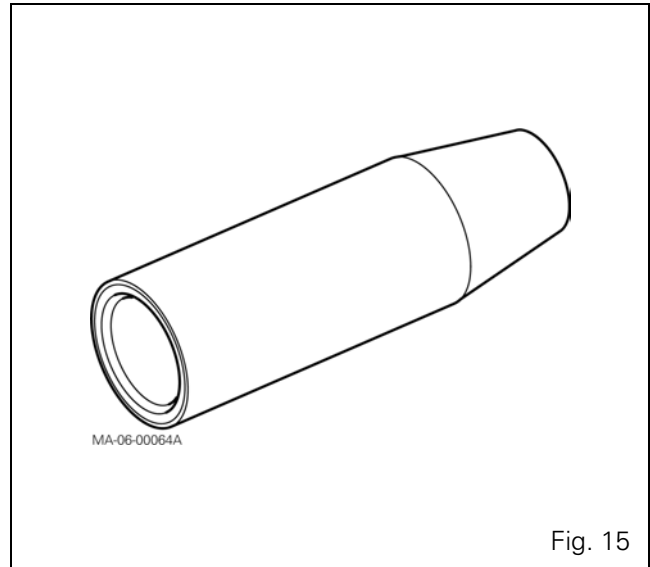

Fig. 15
- 3376885M1: Compartment oil seal protector (Fig. 15)